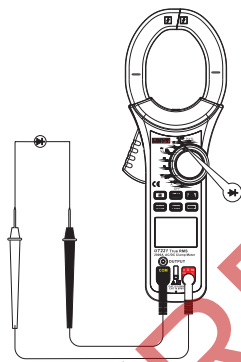

Figure 6
4. Diode test () (See Figure 6)